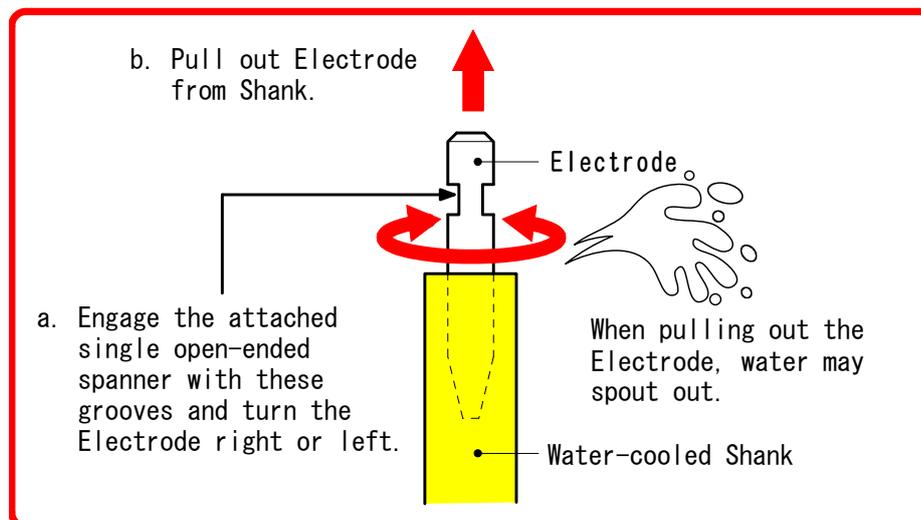

Figure 7-1
- ⑤ Check that a new electrode has no cut and dust at the engaging portion shown by dotted line in Figure 7-1; insert into the water-cooled shank. Do not use an electrode having a cut; it will cause water leak. Wipe off dust and stains with wastes.
- ⑥ Turn on the Main Circuit Breaker of the Welding Power Supply.
- ⑦ Secure fitting, i.e., engagement of the electrode and water-cooled shank, applying weld force several times.